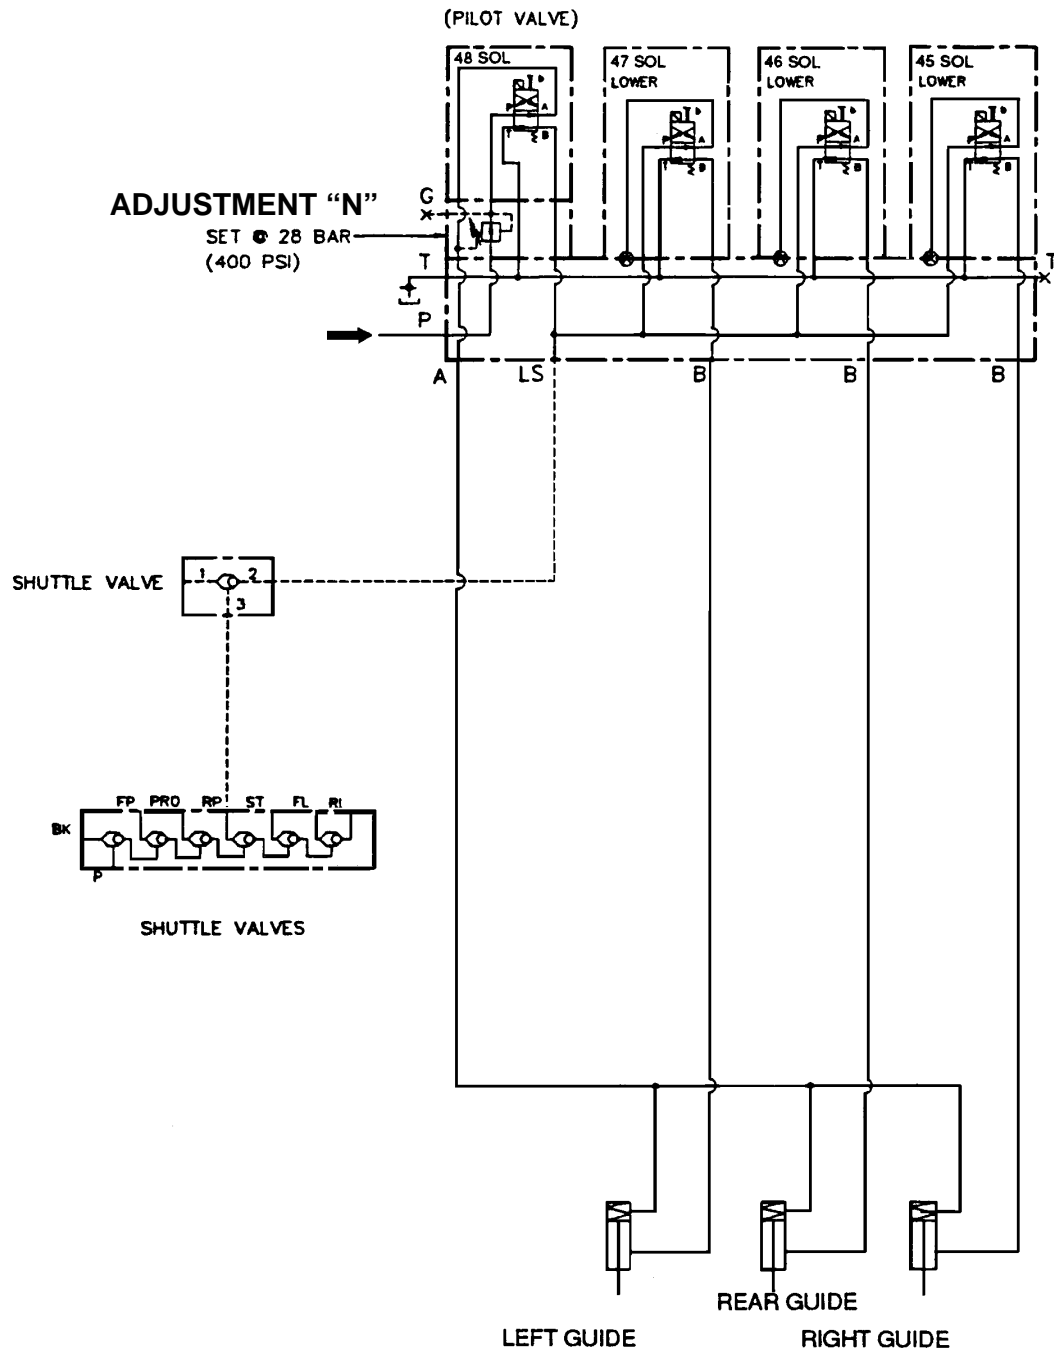

Figure 16
- (1) After the platform slow lower speed has been adjusted correctly, have assistant raise the bridge and platform to full height, and time lowering the platform fully to confirm the speed is 50 feet per minute. It should take 20-22 seconds.
- (2) The adjusting screw for platform fast lower speed is just above and to the right of the slow lower speed control, in the recessed area.
- (3) Loosen the lock nut, and turn the adjusting screw clockwise to reduce the speed, and counterclockwise to increase the speed. Tighten the lock nut after each adjustment.
- (4) Confirm that the speed is 50 feet per minute.
- (5) Swing the power unit to the closed position and secure it with the retention bolt.
N. Platform Guides Pressure Reducing Valve Adjustment (Figure 15, Figure 16)